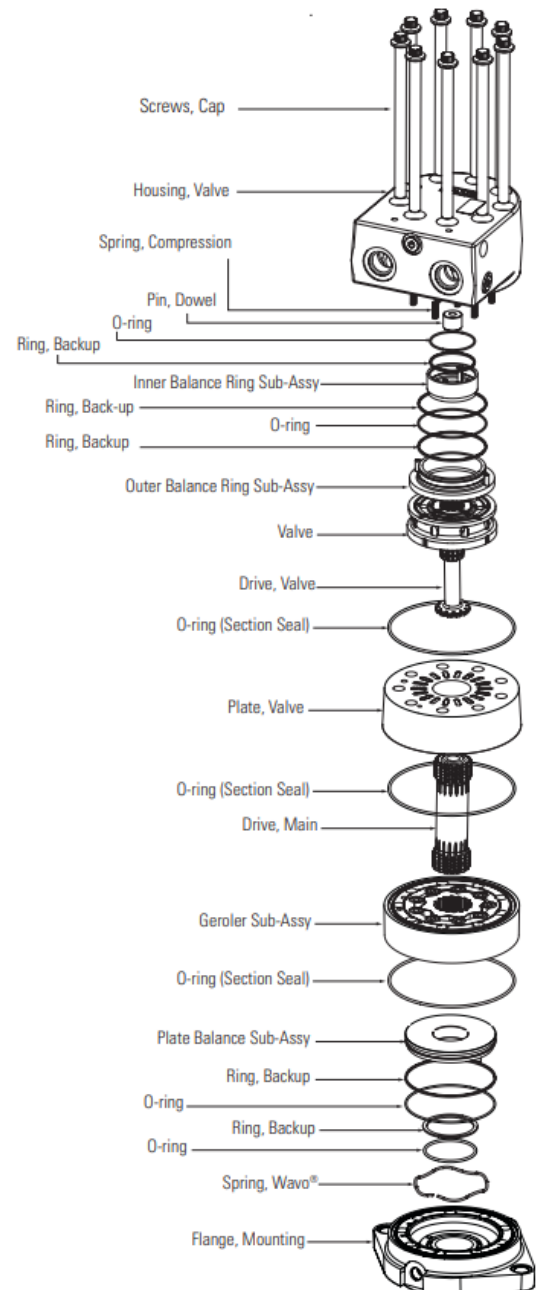

Figure 4 Single Speed Bearingless motor disassembly
2. With mounting flange O-ring grooves up (see Figure 4), install O-ring section seal (139,4 [5.49] ID) into flange. Install back-up ring (62,1 [2.45] OD) over O-ring (55,2 [2.18] ID) with flat side up. Back-up ring and O-rings may be greased to assist in retaining parts.